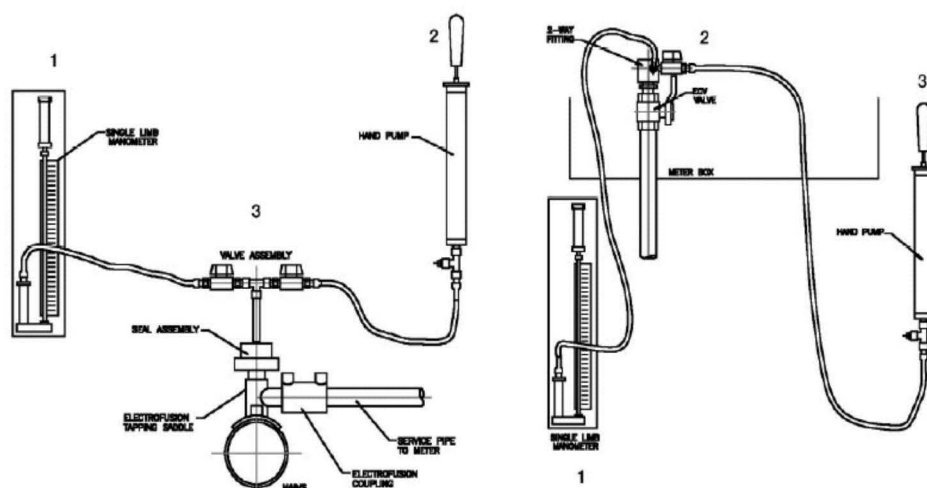

Figure E1- LP Service Test Equipment
1. The service shall be tested. The test equipment used for all low pressure service testing is shown in Figure E1 and Table E2.
3. Air should be introduced slowly using a hand pump through the test apparatus attached either to the emergency control valve or the mains service tee as shown in Figure E1. The valve to the hand pump should be closed when the pressure on the gauge has reached a minimum of 100mbar in accordance with Table E1.